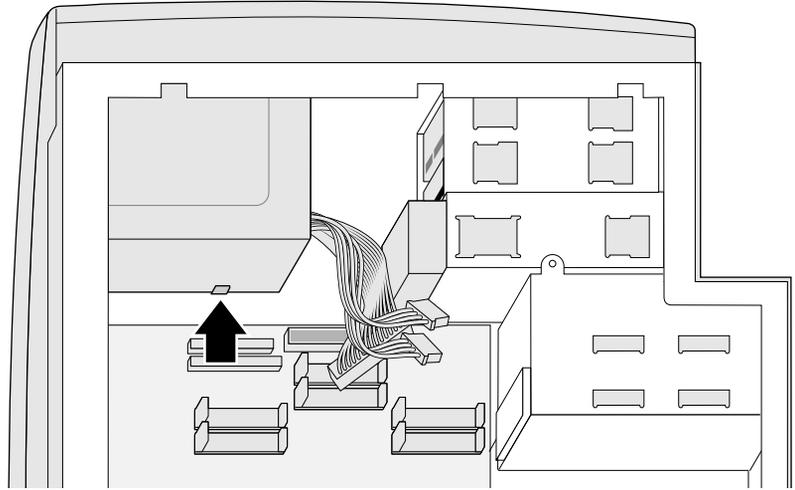

Figure 7-5 Power Supply Tab
4. Rest it on the tab, as shown in Figure 7-5.